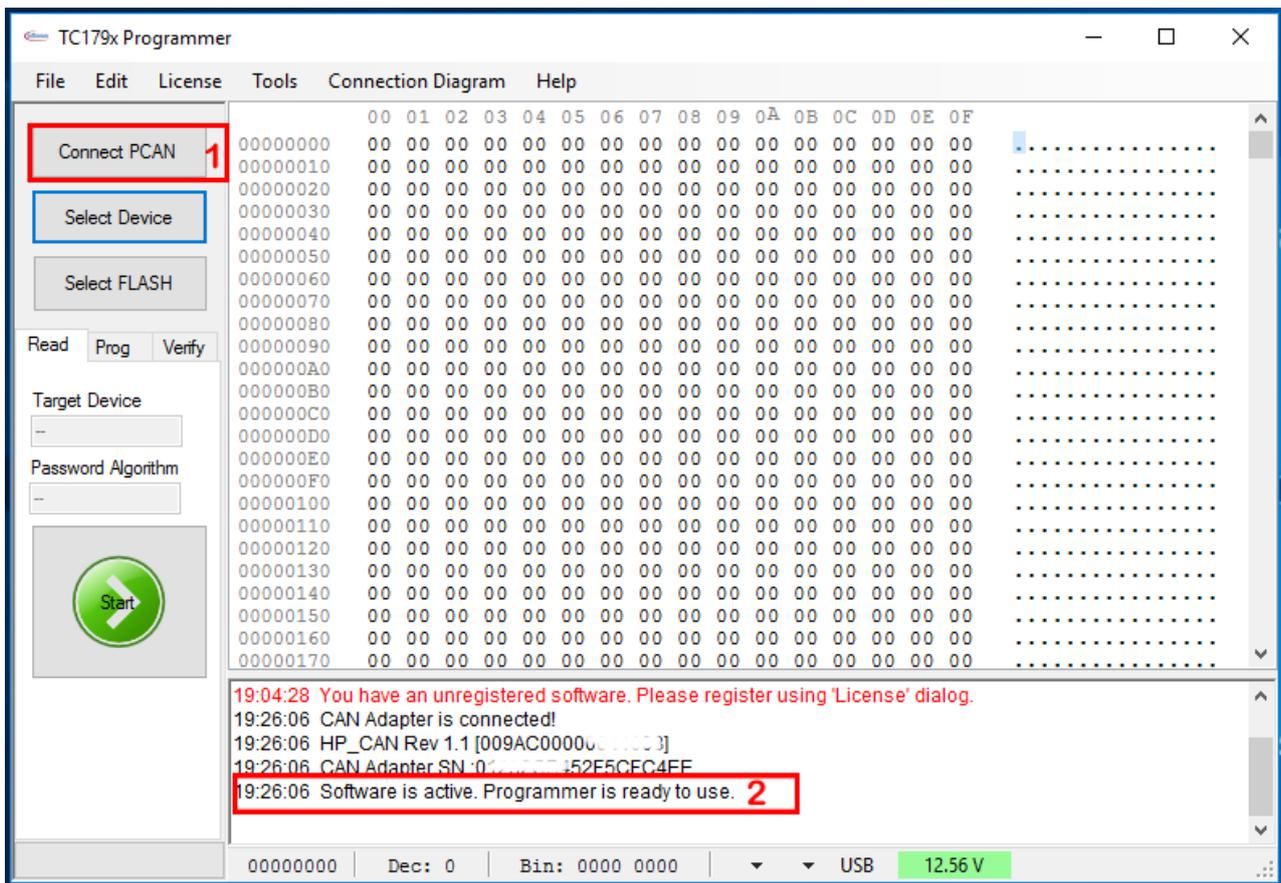

Figure 16 Successful TC2xx-Programmer activation and connection
- Wait until the "Software is active. Programmer is ready to use" message appear (Figure 16).